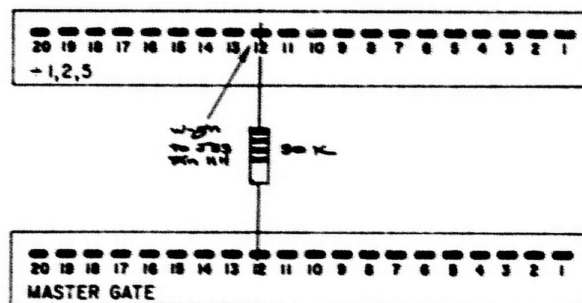

Fig. 3
- ( ) Solder this wire to the Divide by 1, 2, 5 connector, pin 12 (see Fig. 3).
- ( ) 2. Solder a 30k, 1/2w resistor (from kit) between the Divide by 1, 2, 5 connector, pin 12, and Master Gate connector, pin 12 (see Fig. 3).